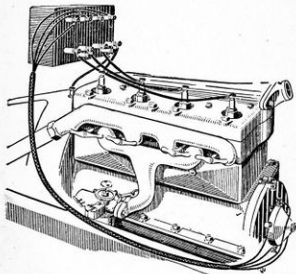

Figure 20.—Ignition Wiring of Older Models.
*Current Paths.*—All of the external wiring is shown in Figure 20. Starting from the terminal of the magneto the primary current passes to the switch located on the coil box and from this switch to the primary